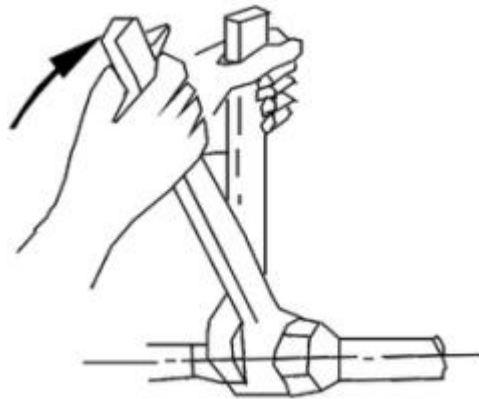

Figure 7
- When connect the water inlet and outlet pipes, two pipe wrenches shall be used to control the two parts of the pipes, and ensure the water inlet and outlet pipes not turning around, please refer to the Figure 7